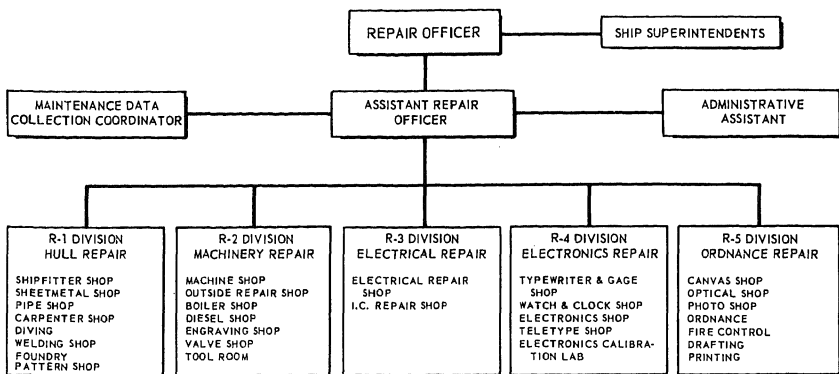
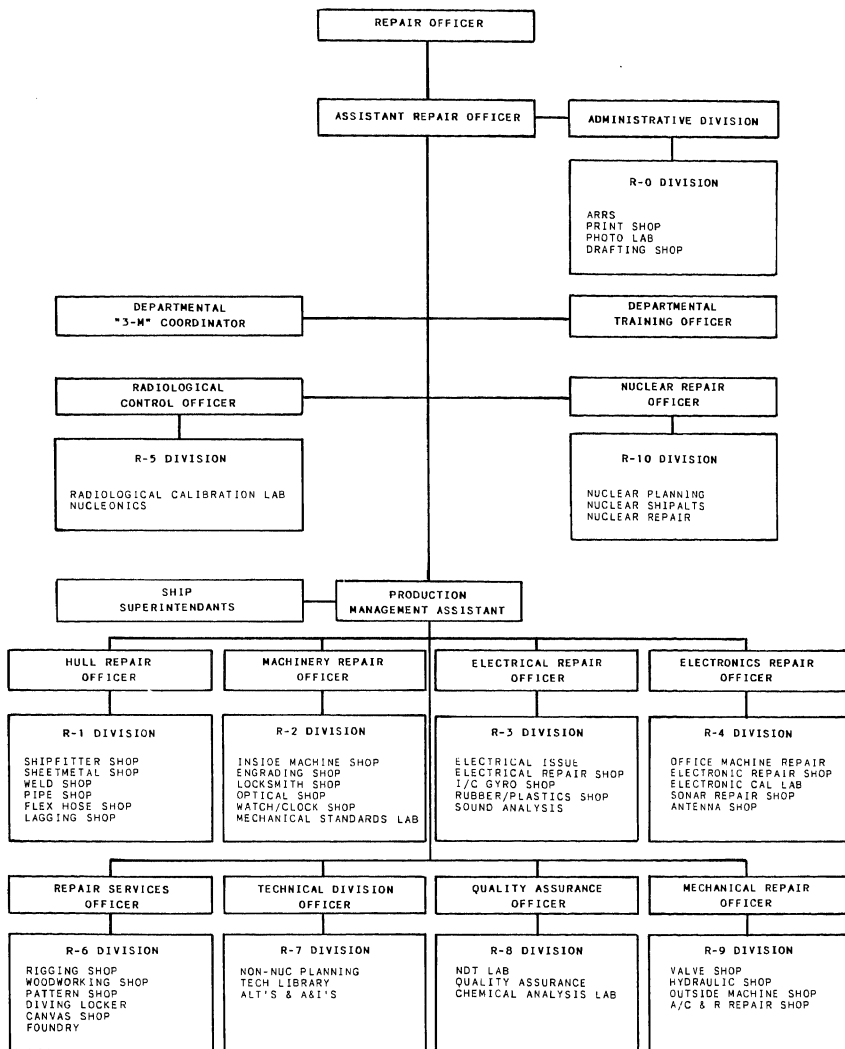

Figure 15-1.—Organization of the repair department in a typical repair ship (AR).
Figure 15-2.—Organization of the repair department in fleet ballistic missile submarine tender (AS).
Repair department organization varies somewhat from one ship to another, as you can see by comparing figures 15-1 and 15-2. Figure 15-1 shows the organization of the repair department in a typical repair ship (AR); figure 15-2 shows the organization of the repair department in a fleet ballistic missile (FBM) submarine tender (AS).